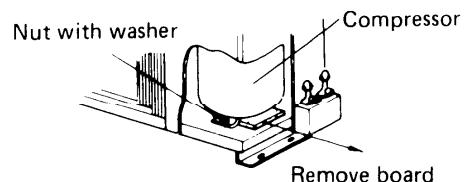

Fig. 37
- d) Check to see if compressor mounting bracket or board, which secures compressor during transportation, is removed. If not, remove them. Fig. 37